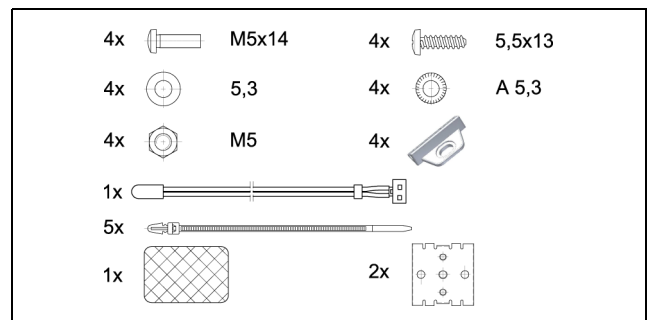

Fig. 1: Accompanying accessories
- Accessories provided (fig. 1)